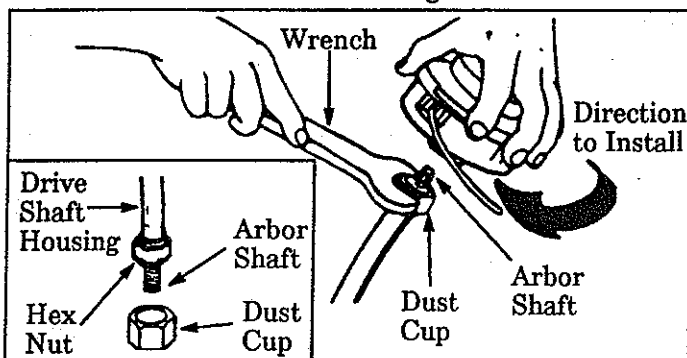

Figure 5
- Place the Dust Cup on the Drive Shaft Housing over the hex nut that is assembled on the arbor shaft. Figure 5 .
- Thread the Trimmer Head onto the Arbor Shaft against the Dust Cup and hand tighten firmly. Figure 5 .